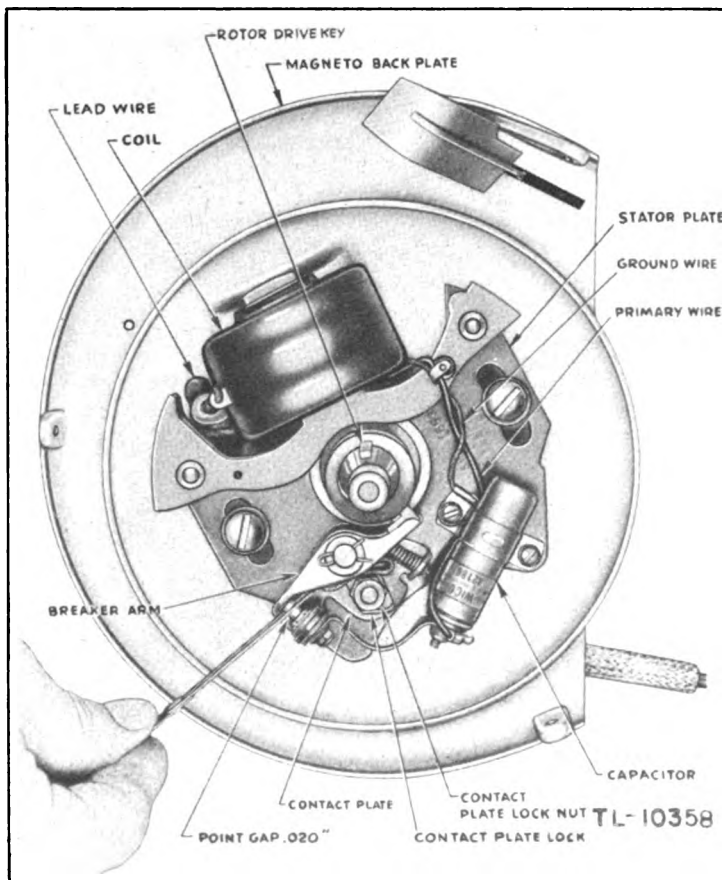

Figure 67—Point Adjustment
b. To Adjust Points.— The only adjustable part of the magneto is the breaker plate 457, which provides adjustment for the breaker points. To adjust breaker points, first remove housing 464. Then unscrew starter pulley 467 from the crankshaft. Screw on flywheel removal tool 531 and tap tool on the end to loosen flywheel 460, which should be removed to provide access to points. Turn engine clockwise (to the right) by hand, until breaker points are fully open. Check opening (Fig. 67) with feeler gauge 536. Correct opening is .020 inch.